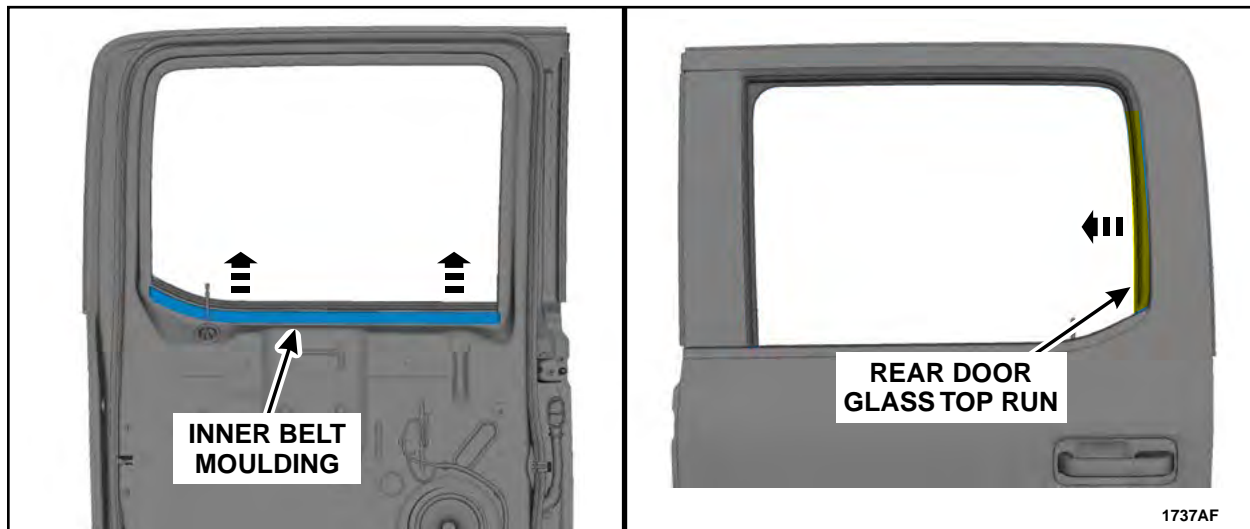

FIGURE 62
4. Remove the rear door inner belt moulding and position aside the latch side of the door glass top run. See Figure 62.
9. Install the rear door glass top run and inner belt moulding. See Figure 62.